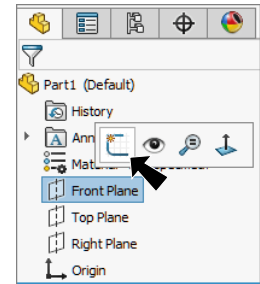

Fig. 1
Step 2. Click **Front Plane**  in the Feature Manager and click **Sketch**  on the content toolbar, **Fig. 1**.